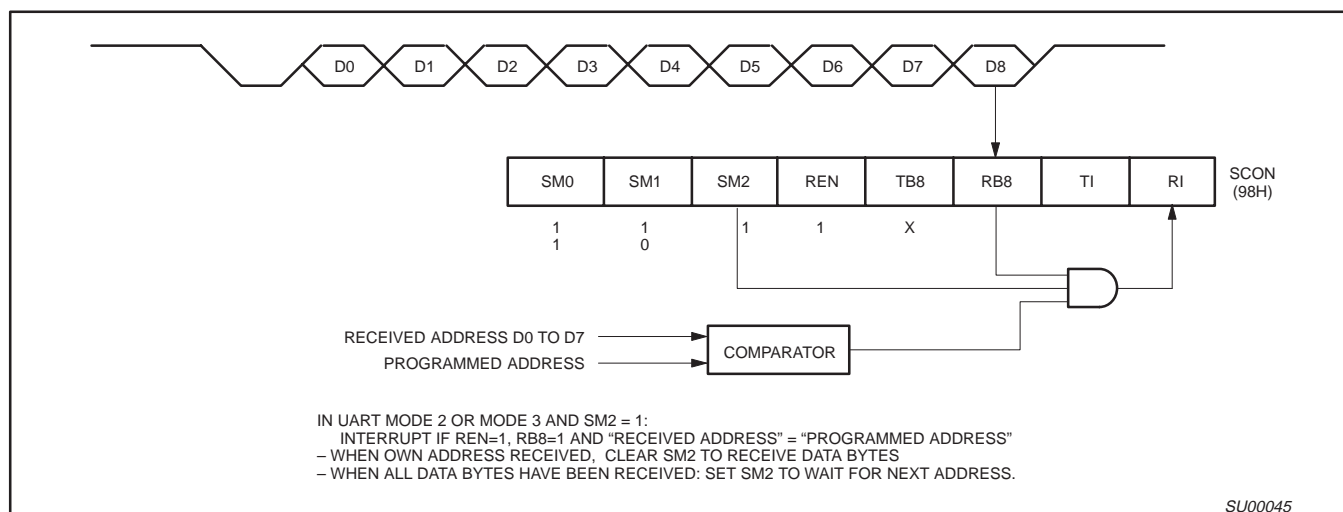

Figure 21. UART Multiprocessor Communication, Automatic Address Recognition
Automatic Address Recognition is a feature which allows the UART to recognize certain addresses in the serial bit stream by using hardware to make the comparisons. This feature saves a great deal of software overhead by eliminating the need for the software to examine every serial address which passes by the serial port. This feature is enabled by setting the SM2 bit in SCON. In the 9 bit UART modes, mode 2 and mode 3, the Receive Interrupt flag (RI) will be automatically set when the received byte contains either the "Given" address or the "Broadcast" address. The 9 bit mode requires that the 9th information bit is a 1 to indicate that the received information is an address and not data. Automatic address recognition is shown in Figure 21.